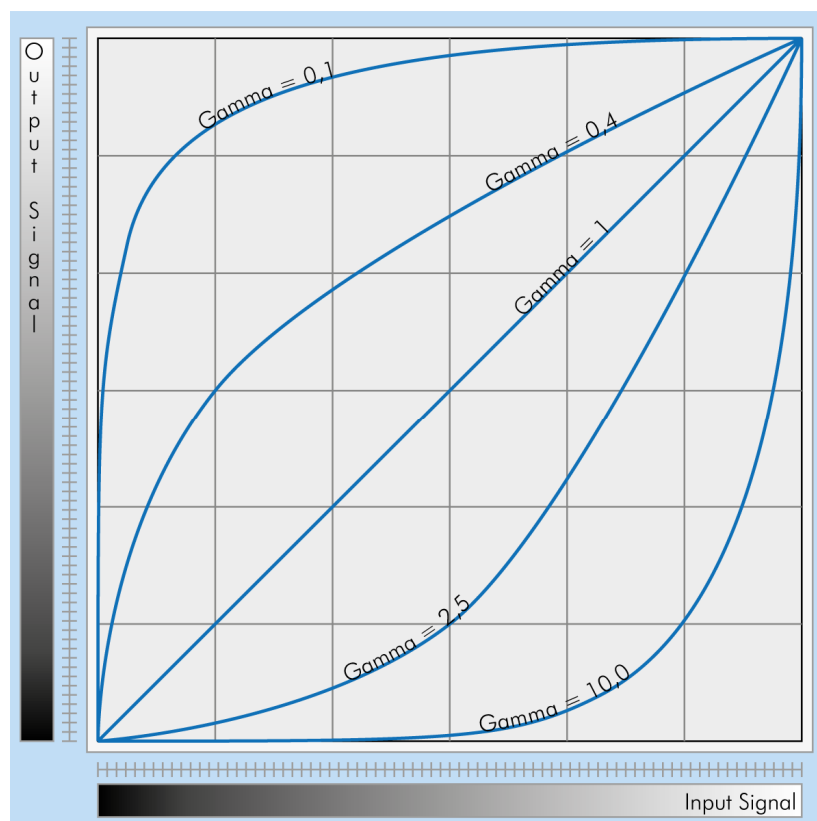

Figure 2: Several gamma curves comparable to a LUT
Figure 2: (A) A grid polarizer blocks the polarization component that is parallel to the grid array. Only light perpendicular to the grid can pass through. (B) Grid polarizers with different grid orientations result in linear polarized light with orientations perpendicular to the grid orientation, respectively. Here grid orientations of 0°, 45°, 135° and 90° are shown. (C) The IMX250MZR sensor has a polarization filter array added to the photodiode array. A short distance between polarizer and the photodiode reduces the effect of crosstalk, i.e. the wrong detection of a polarization angle by a neighboring pixel. The sensor shows excellent image quality in various light source environments. (D) The polarization filter array consists of multiple 2x2 patterns that show four different wire grid orientations. The respective measured signal I of a 2x2 pattern is a measure of the amount of light with 0° (I_0), 135° (I_{135}), 45° (I_{45}) and 90° (I_{90}) polarization. These intensities can be used to estimate the angle of linear polarization θ as well as the degree of linear polarization $DoLP$. Images in C and D are adapted from Sony